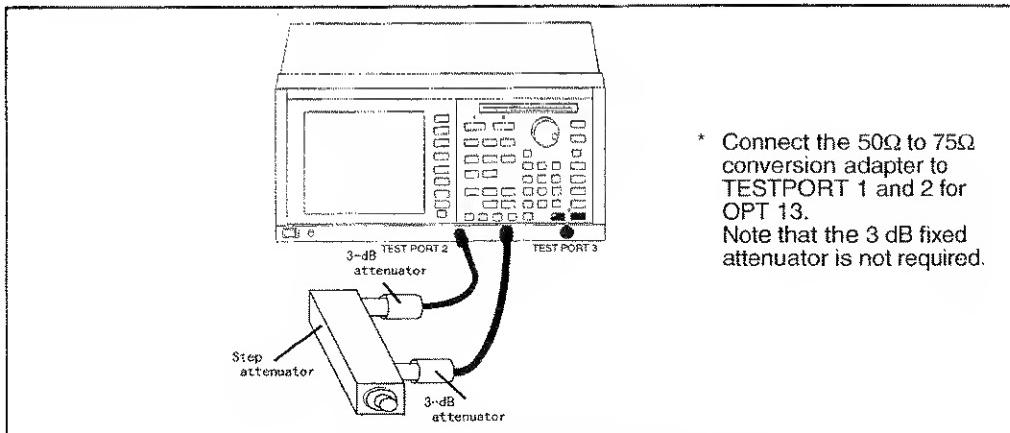

Figure 10-35 Connections for TEST PORT 1 Measurement
- (1) Connect two 3-dB attenuators and step attenuator using the RF cables between TEST PORT 1 and TEST PORT 2 shown in Figure 10-35.